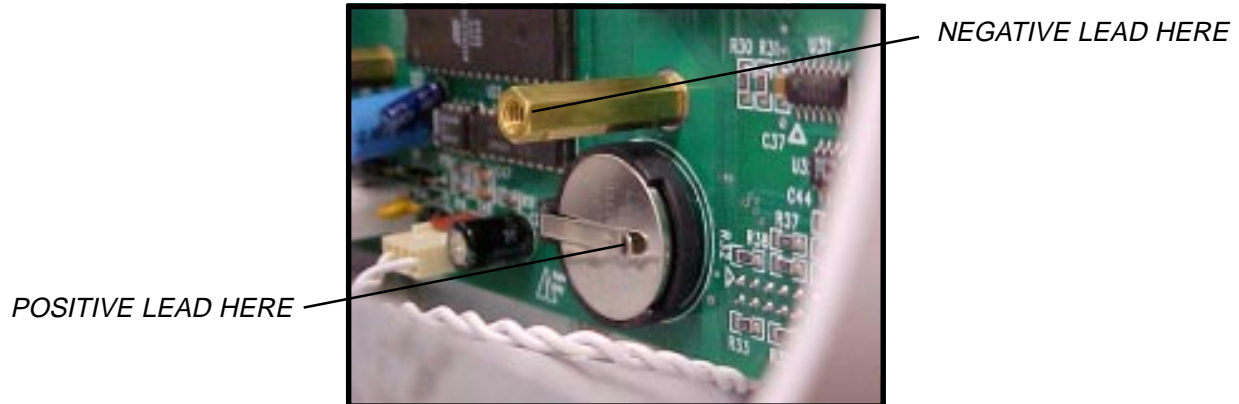

Figure 2-3. Placement of Battery Leads.
- Place the POSITIVE LEAD of the voltmeter on the battery holder clip. Place the NEGATIVE LEAD of the voltmeter on the standoff nut nearest the battery holder. See Figure 2-3.